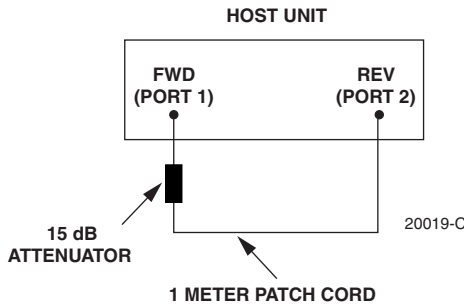

Figure 4-4. Host Unit Loopback Test
5. Plug a 15 dB in-line optical attenuator into the FWD (PORT 1) optical port as shown in Figure 4-4.